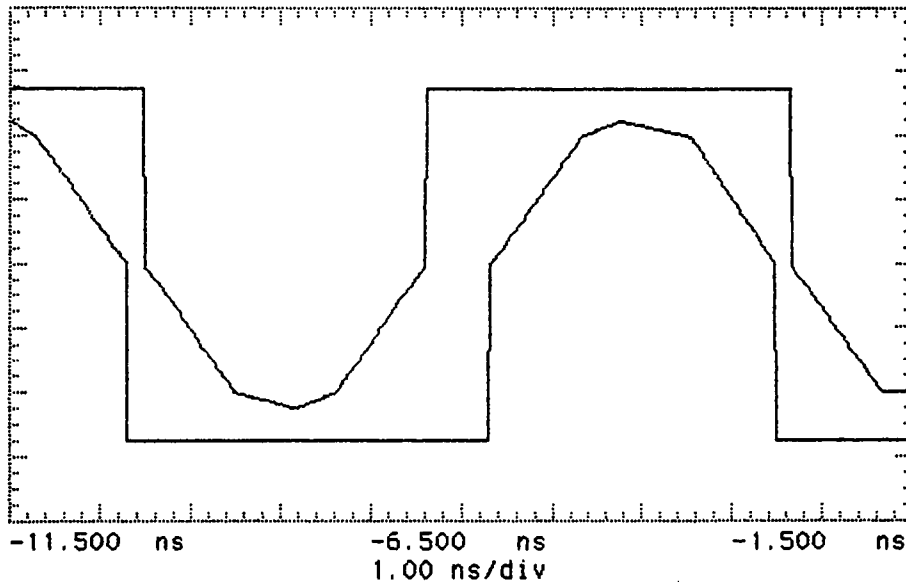

Figure 3-21. 140 Mb/s Pulse Mask All 0's
95. Press SHIFT **AUTOSCALE** on the oscilloscope to automatically align the pulse to the mask. Verify that the pulse falls within the mask as shown in Figure 3-21.
If your oscilloscope does not have the Mask feature, obtain a printout of the displayed pulse. Place the mask shown in Figure 3-21 over the pulse and ensure that the pulse falls within the mask (a transparent copy of the mask should be used).